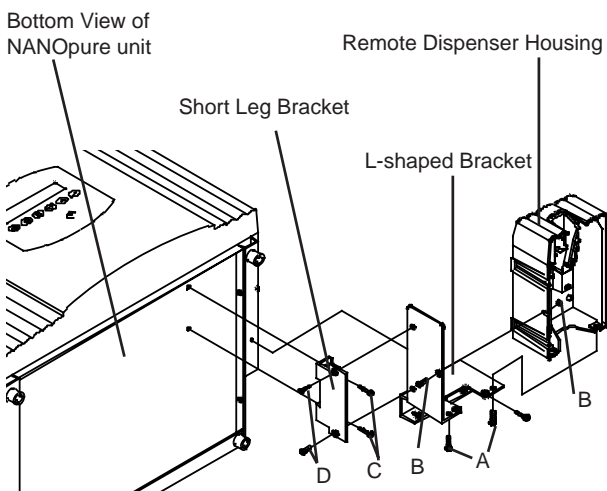

Figure 6 Remote Dispenser Housing Installation
2. Place the L-shaped bracket to the left and back sides of the remote dispenser housing. Replace the two screws (1/2" x 8/32" pan head) removed in step 1 into the back of the housing to attach the bracket (See Figure 6, A).
3. Place one flat head screw (1/2" x 8/ 32") into the left side bottom of the L-shaped bracket. Secure it with the nut supplied. (See Figure 6, B).
4. Attach the short leg bracket with the two pan head screws (1/2" x 8/32") to the bottom right side of the Infinity unit with the short legs pointing to the right. (See Figure 6, C).
5. Locate the remote dispenser housing/ L-shaped bracket assembled in step 2 and the two remaining flat head screws. Line up the two holes in the bracket mounted on the bottom of the Infinity unit with the two holes in the remote dispenser housing/L-shaped bracket. Secure with the two flat head screws. (See Figure 6, D).